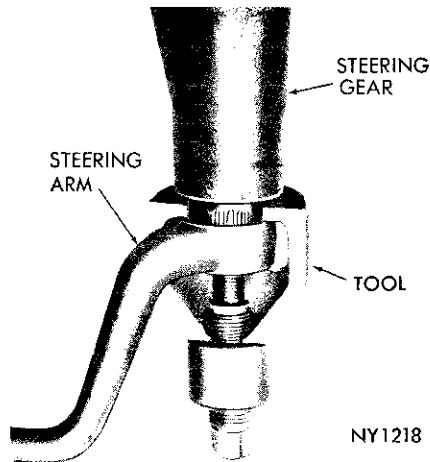

Fig. 3—Removing the Steering Gear Arm
- (1) Disconnect the steering gear arm from the cross shaft with Tool C-3646 (Fig. 3).
- (2) Remove the horn button or horn ring.
- (3) Loosen the cross shaft adjusting screw lock nut, and back out the adjusting screw approximately two turns. This will relieve any friction load which may be present at the closely meshed ball nut rack and sector gear teeth.
- (4) Turn the steering wheel two complete turns from the straight ahead position, and place the torque wrench Tool C-3380 on the steering shaft nut.
- (5) Rotate the steering shaft at least one turn toward the straight ahead position, while testing the rotating torque with the torque wrench.
(1) Remove the steering arm retaining nut. Remove the arm with Tool C-3646 (Fig. 3).
(2) Remove the bolt from the coupling clamp at the upper end of the steering gear wormshaft.
(3) To provide sufficient clearance at the coupling, loosen the column jacket to instrument panel clamp bolts sufficient to disengage the tab on the clamp from the slot in the column jacket. Slide the column assembly up far enough to disengage the coupling from the wormshaft.